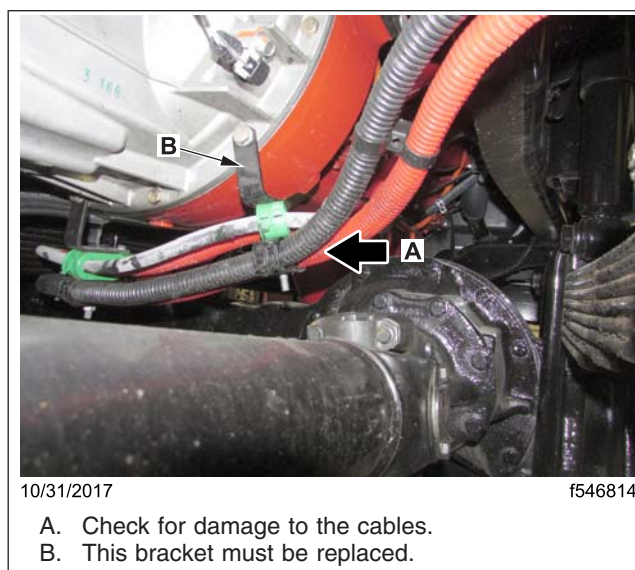

Fig. 1, Battery Cables Near the Driveline
3. Inspect the battery cables near the driveline for signs of damage. See Fig. 1.